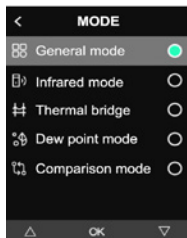

Figure 1
2. Press the **◀** or **▶** buttons to scroll through each mode as shown in Figure 1.